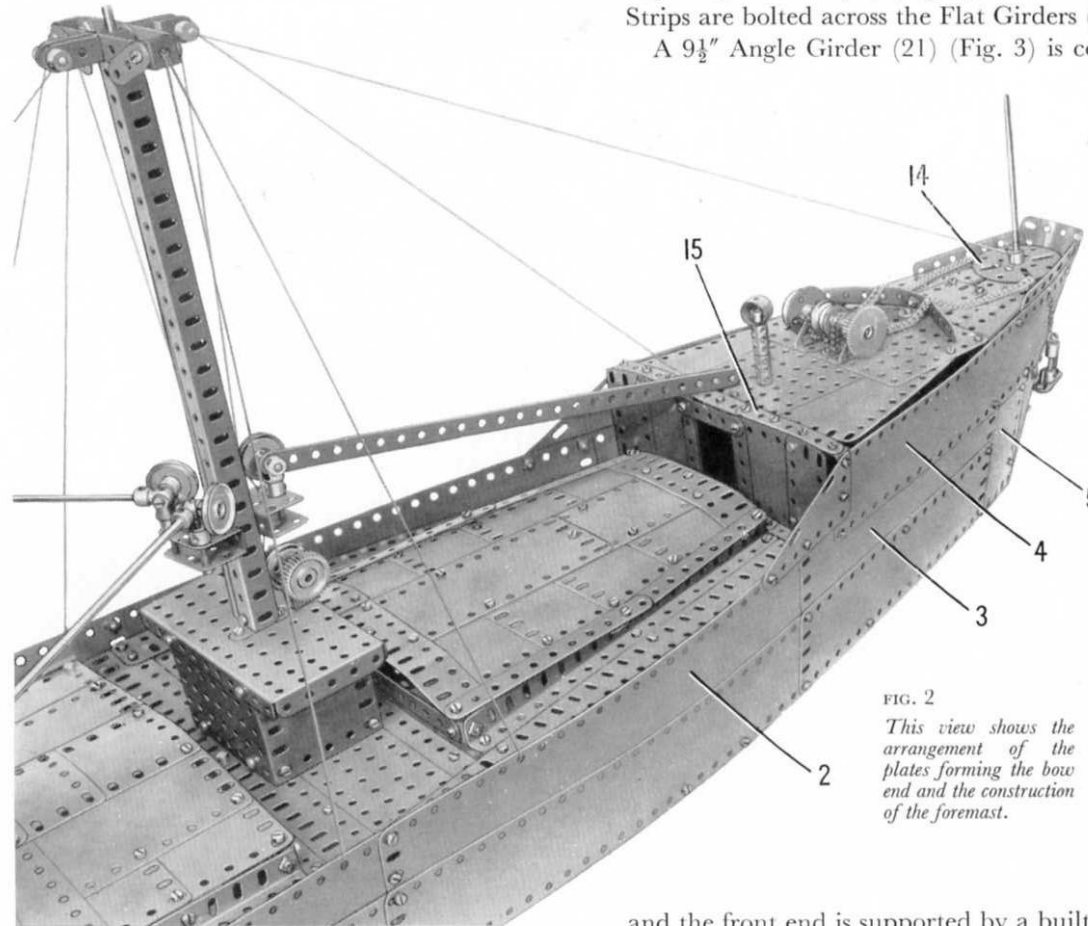
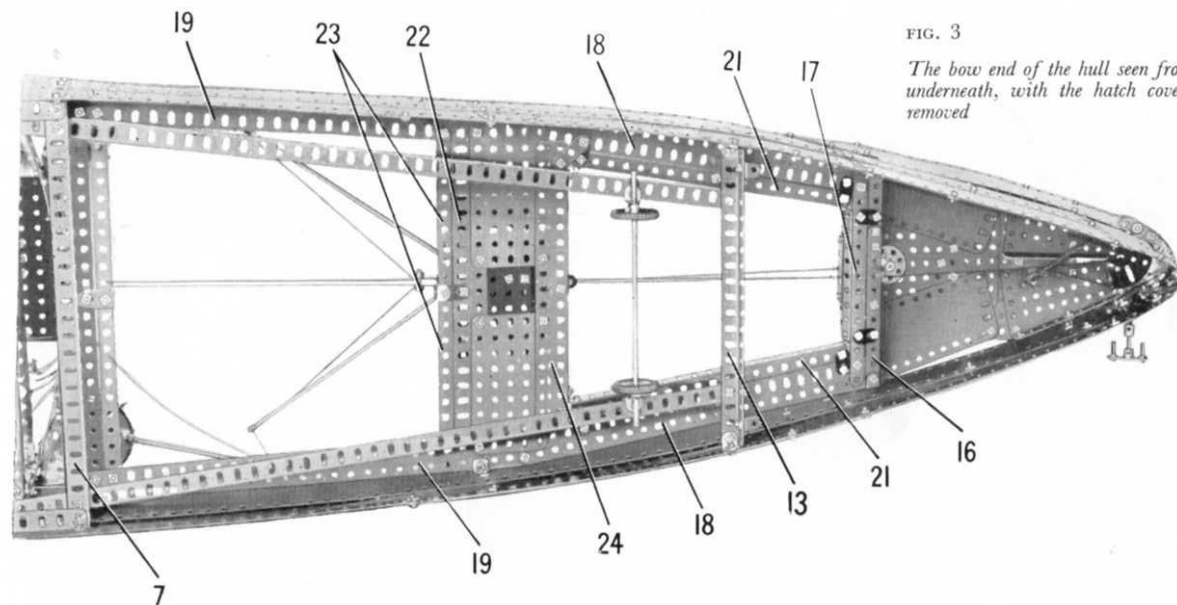

FIG. 2
FIG. 3
The foredeck consists of a Face Plate (14) (Fig. 2) at the bows bolted to two Flanged Sector Plates. Behind the Flanged Sector Plates are two $5\frac{1}{2}$ " \times $3\frac{1}{2}$ " Flat Plates, with a $5\frac{1}{2}$ " \times $2\frac{1}{2}$ " Flexible Plate on each side arranged at an angle. The aft ends of these Plates are supported by a made-up strip (15), consisting of a $5\frac{1}{2}$ " and a $3\frac{1}{2}$ " Strip, which is attached to the top lugs of $2\frac{1}{2}$ " \times $\frac{1}{2}$ " Double Angle Strips bolted to the sides. The lower lugs of these Double Angle Strips support a strip (16) (Fig. 3) made from a $5\frac{1}{2}$ " and a $2\frac{1}{2}$ " Strip. A $2\frac{1}{2}$ " \times $2\frac{1}{2}$ " and a $2\frac{1}{2}$ " \times $1\frac{1}{2}$ " Flexible Plate on each side are bolted together and are connected vertically to the strips (15) and (16) by Angle Brackets. They are bolted also to $2\frac{1}{2}$ " \times $\frac{1}{2}$ " Double Angle Strips fixed between these strips.
A $9\frac{1}{2}$ " Angle Girder (21) (Fig. 3) is connected to each Flat Girder (18) by three Fishplates, and $3\frac{1}{2}$ " \times $\frac{1}{2}$ " Double Angle Strips are bolted between these Flat Girders and the Angle Girder (13).
A $9\frac{1}{2}$ " Flat Girder (22), extended by a $2\frac{1}{2}$ " Flat Girder, is fixed to the Flat Girders (19), and two $5\frac{1}{2}$ " Strips (23) joined together are also attached to the Flat Girders (19). A $9\frac{1}{2}$ " Flat Girder (24) is connected to the Flat Girders (18) by a $1\frac{1}{2}$ " Strip at each end. Two $4\frac{1}{2}$ " \times $2\frac{1}{2}$ " Flat Plates are placed between the Flat Girders (22) and (24) as shown in Fig. 3.
The model is completed by adding wheels as shown in Figs. 3 and 4, and by arranging Cord to represent the rigging and the derrick ropes.